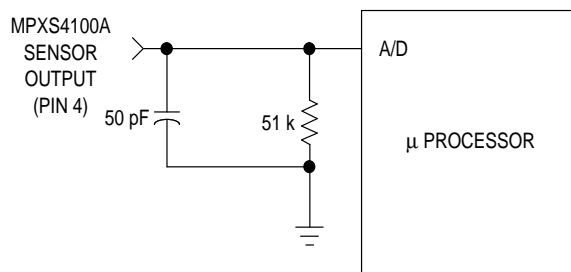

Figure 2. Recommended Decoupling Filter for Sensor to Microprocessor Interface
- Decoupling circuit shown in Figure 2 required to meet specification.
Figure 2 shows the recommended decoupling circuit for interfacing the output of the integrated BAP sensor to the A/D input of a microprocessor (see Note 10).